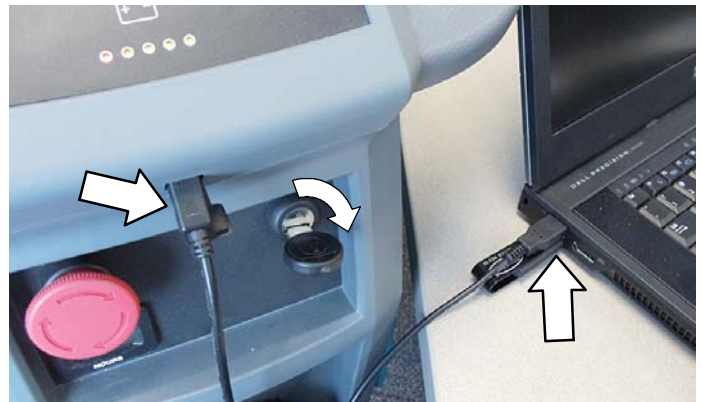

Fig. 4
3. Connect the USB cable, supplied with kit, to the computer and into the USB port on machine. Turn the key switch to the on position (Figure 4).